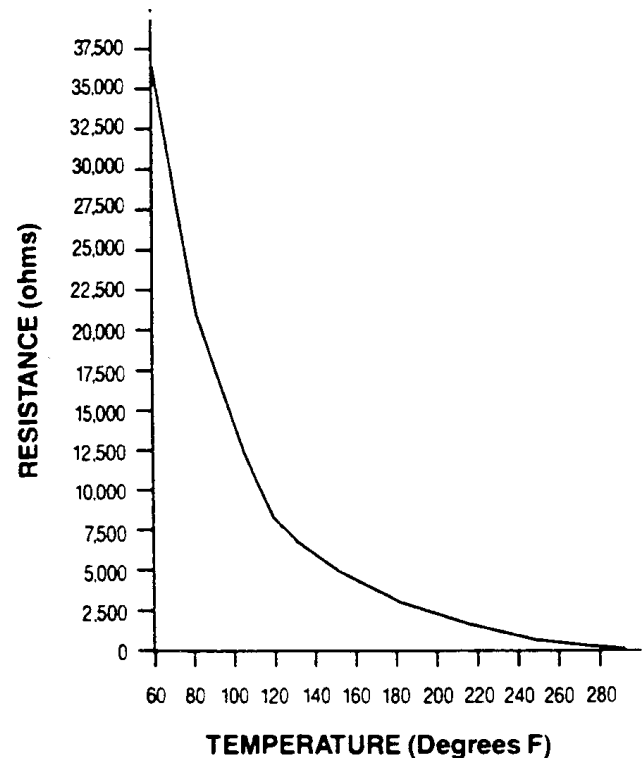

Figure 7-3
1. Obtain test equipment and note Temperature/Resistance Data (see Figure 7-3):